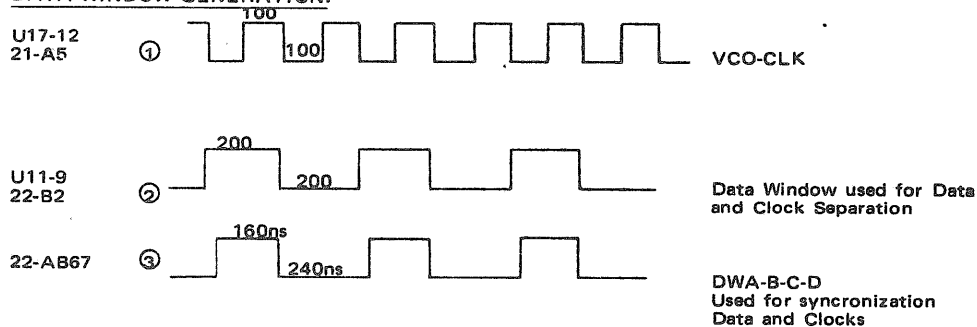

Figure 9.12: Data Window Generation
At some point in time in the "Head Gap" the "Read Enable" from the controller will be turned on. The exact time will depend on the amount of sector pulse jitter, controller variation, mechanical skew of sector pulses and disk unit tolerances. An average tolerance would be 30 μ s or 75 bits. When "Read Enable" becomes active, we will receive clock pulses from the disk via the R/W/E-board. Internally on the DR-board, 5MHZ osc (VCO – voltage controller oscillator is divided by two to generate a data window pulse train. Refer to the Timing Chart – Figure 9.12.
For best data readability the ideal situation is that data (PDA) will show up in the middle of data window, i.e. clock pulses show up in the data window. Our question now is: should we look for data for the same length of time as we are looking for clocks, i.e. should the data window pulse train be symmetrical? Refer to Figure 9.12. Pulse train 3 is used for data and clock synchronization and we notice that the wave form is non-symmetrical, i.e. we are looking for clocks for $240\mu\text{s}$ and data for $160\mu\text{s}$. To answer the question we refer to the following paragraph.
In conclusion, a peak shift will not occur to a data bit, but will occur in both directions to a clock pulse. A longer window is therefore required for clock pulses than for data pulses. Refer to Figure 9.12 ③